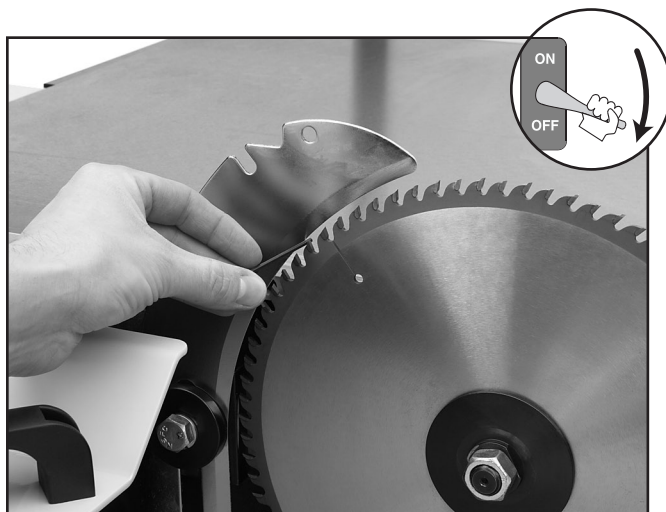

Figure 48. Adjusting the riving knife.
- Position the riving knife about 3mm or $\frac{1}{8}$ " away from the nearest carbide tooth on the main blade. Note—*For a quick gauge, use the 3mm hex wrench to find the correct spacing between the blade and the riving knife, as shown in **Figure 48**.*